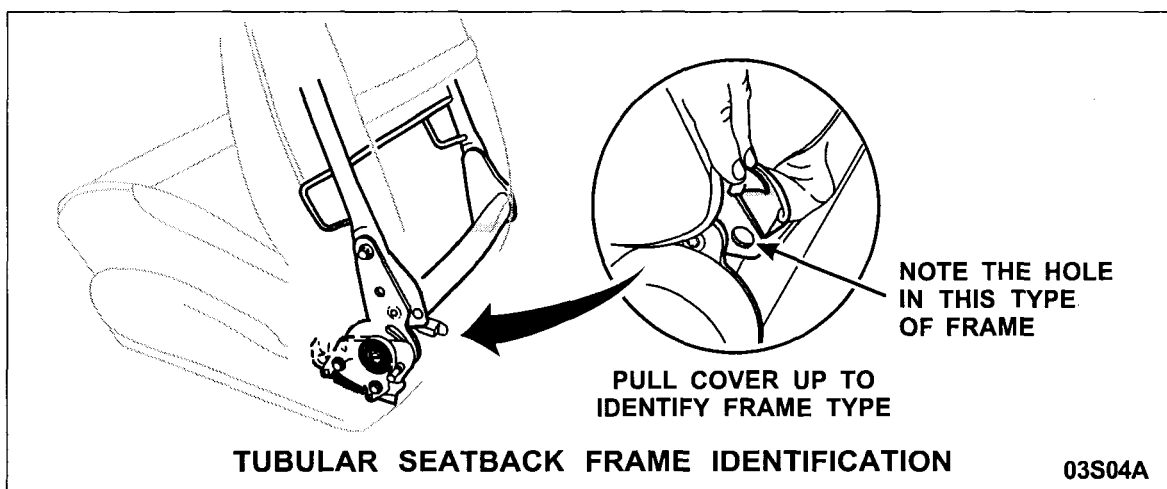

FIGURE 1
This procedure involves replacement of certain seat recliner assembly attaching hardware on two different style driver seat assemblies. The driver seat will have either a stamped seat back frame or a tubular seat back frame. These seats can be distinguished from one another by slightly lifting the seat back cover and viewing the corner of the seat back frame itself. See Figures 1 and 2.
- Tubular seatback frames can be identified by a hole in the lower flange where the recliner mechanism attaches to the seatback frame. See Figure 1.